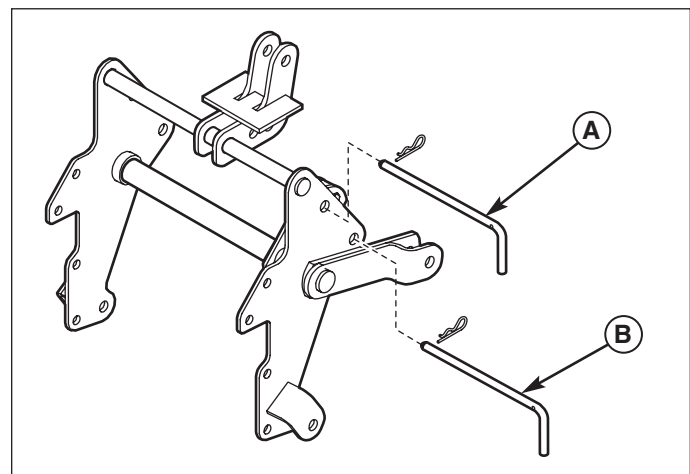

Figure 11. Hitch Rod Positions
2. Remove the locking rod from its storage position (A, Figure 11) and insert it below the hitch arms in the locking position (B).